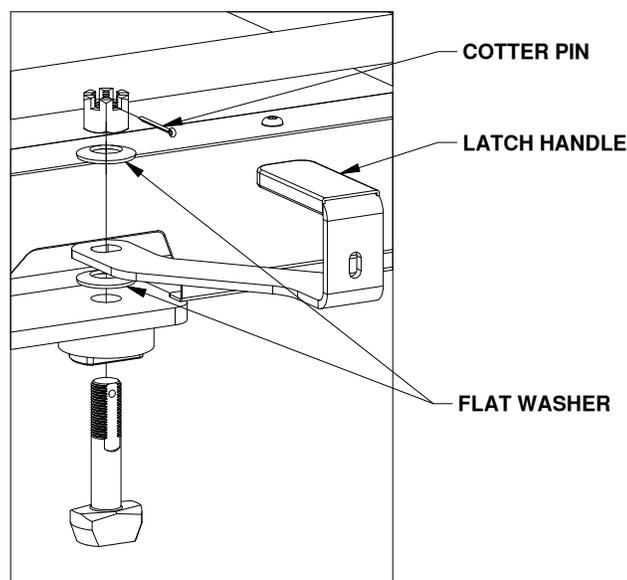

FIGURE B3: List of latch parts.
- Adjust the tension in the latch handle**, for parts list and visual guide refer to Figures B3 and B4.